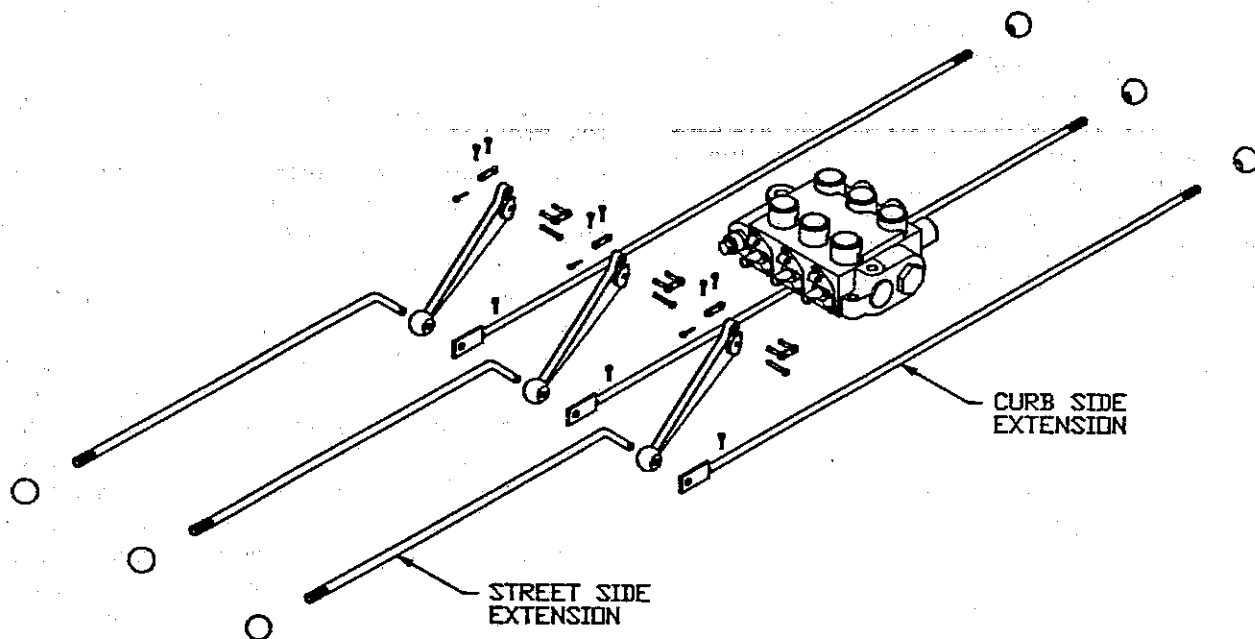

FIG. 4-47 HYDRAULIC CONTROLS INSTALLATION
**4-12.6** Install the control handles and related linkage on the 3-spool valve with the handles pointing down. (See FIG. 4-47, next page) Install the handle and linkage on the single spool valve, if your unit has the tow-bar option, in the same manner as the 3-spool valve.
**4-12.7** Insert the driver's (street) side valve handle extensions (those with the 90 degree bend) through the control panel holes from the back side, threaded end first. Attach the front extension to the front valve handle, middle extension to the middle handle, and rear extension to the back handle. If your unit has the curb side control option, proceed to the next step. If you did not order the curb control option, cotter pin the controls securing them to the valve handles. (See FIG. 4-47, next page)
same welding procedure as for the fuel filler brackets. Units built after February 1987 will bolt onto the right side with 4 mounting bolts. Mounting holes may need to be drilled. Install handle extensions through the panel holes from the back side. The hole in the flat iron end slips over the end of the driver's side extension previously installed. Insert cotter pins and split halves to secure. (See FIG. 4-47)